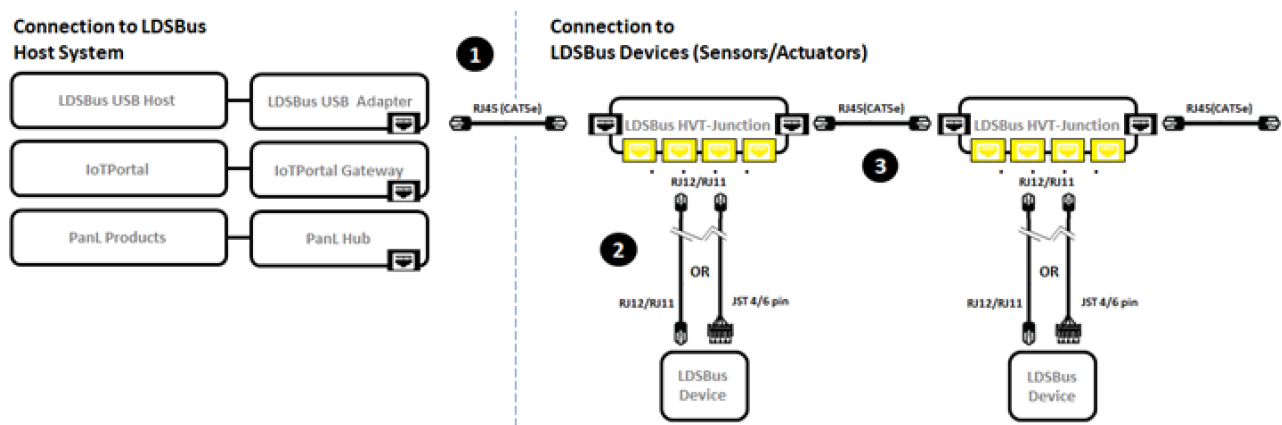

Figure 2 - LDSBus Dissolved Oxygen Sensor Adapter to LDSBus - Connection Diagram
Figure 2 illustrates the connection of the LDSBus DO Sensor Adapter (LDSBus Device) to the LDSBus. Please visit <http://bit.ly/ldsbus-resources> to view the full device application, setup and installation guides.
2. Connect the configured LDSBus DO Sensor to the LDSBus HVT-Junction as shown in Figure 2.
3. If there is more than one LDSBus HVT-Junction, chain them together as shown in Figure 2.